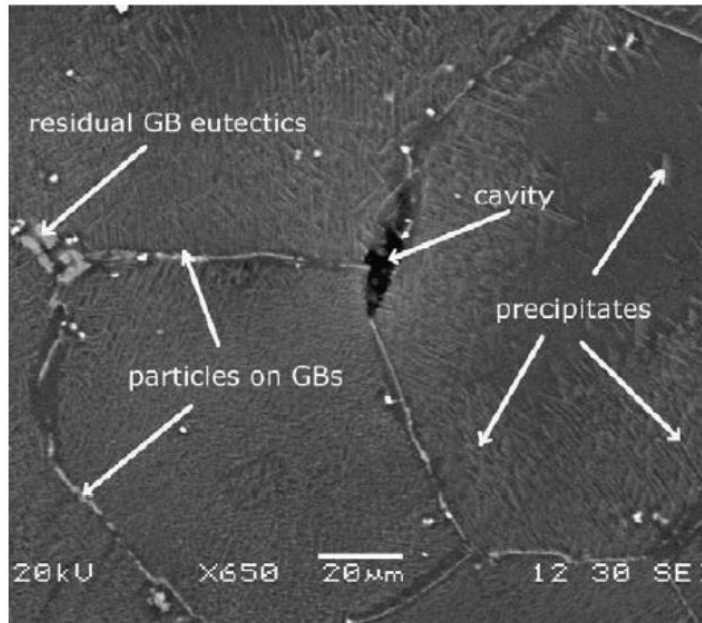

Figure 1. from Janik et al. *Mater. Sci. Eng. A* 528 (2011) 3105-3112.
1. The micrograph in Figure 1 is of Mg-4Y-3Nd after tensile creep testing at 250°C. Examine the features and annotations to answer the following questions: